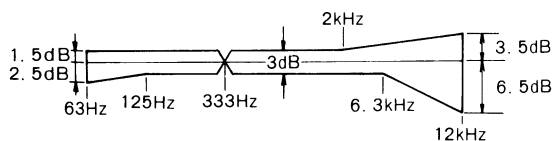

Fig. 57 Using STD-601 and the STD position, with DOLBY NR OFF.
5. Check that the recording/playback frequency response in the 63Hz—12kHz range conforms to the limits shown in Figs. 57 and 58.